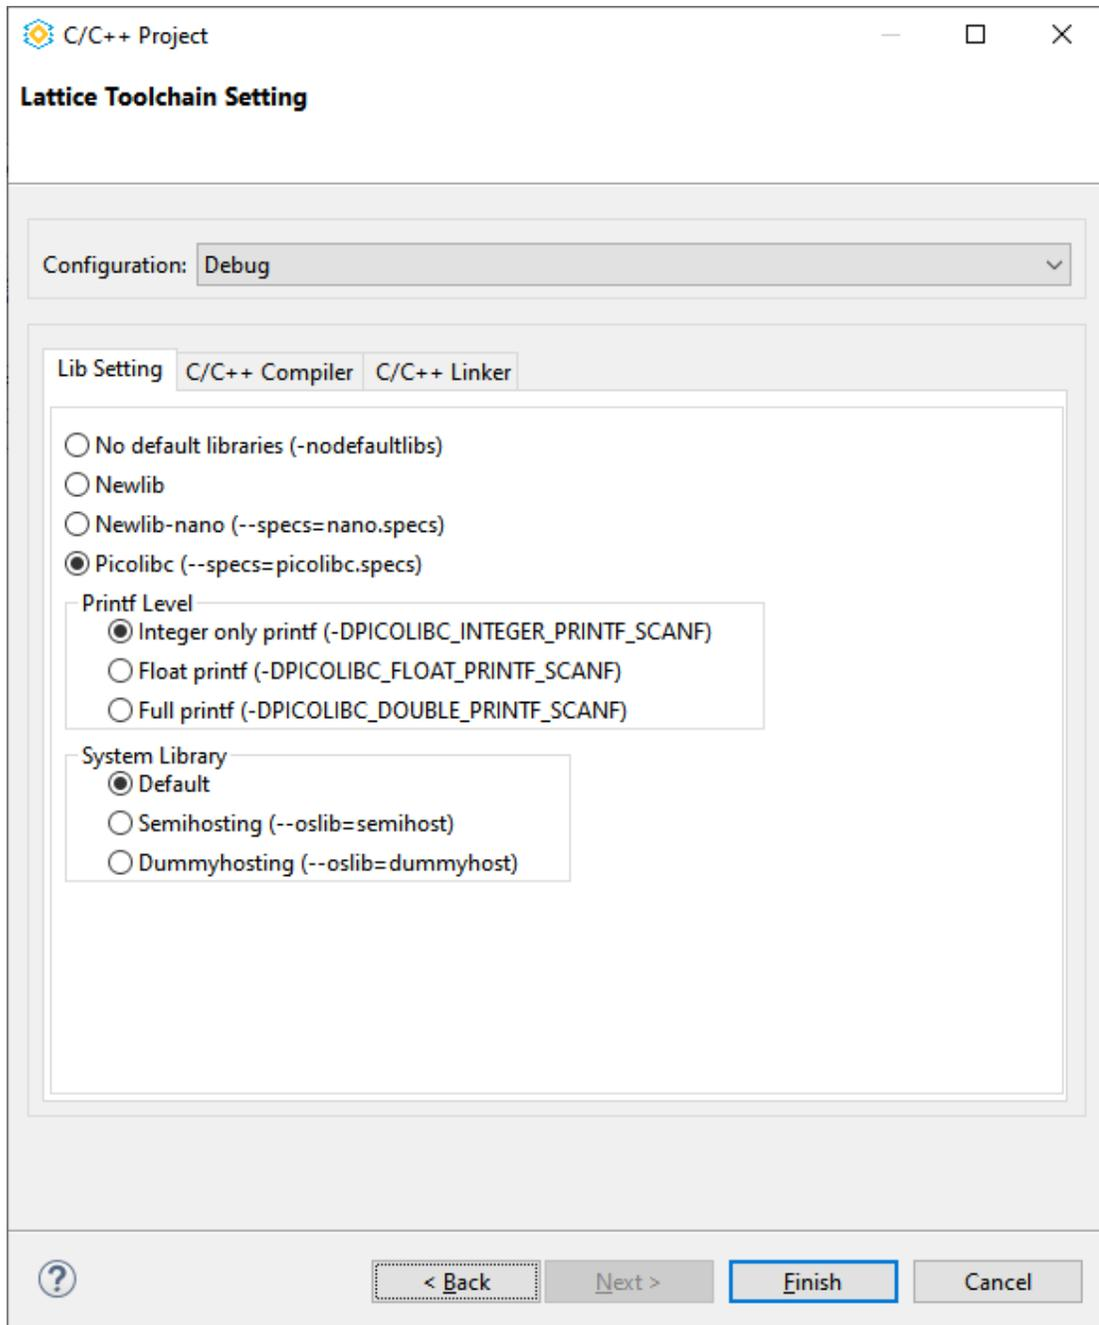

Figure 2.83. Create C/C++ Project
3. Click **Next**. The C/C++ project dialog (Figure 2.83) opens.